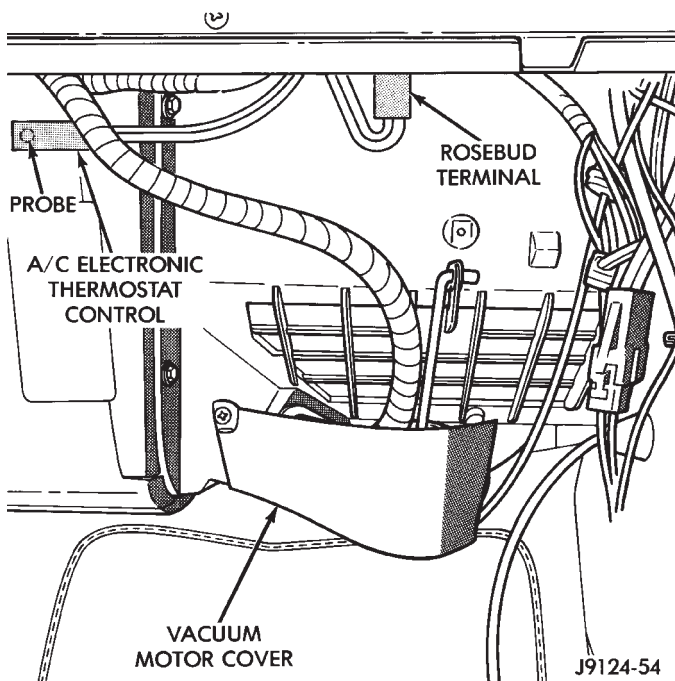

Fig. 19 Vacuum Door Motor Cover
- (1) Remove the vacuum motor cover (Fig. 19).